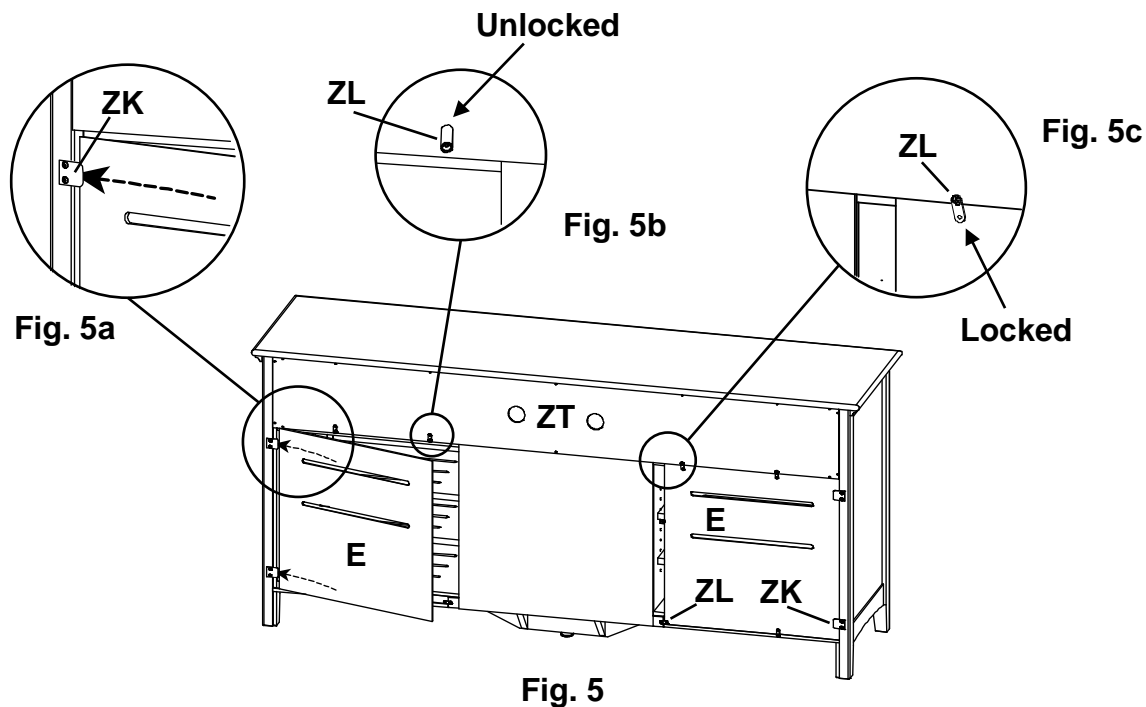

Fig. 5
5. To insert your media components and access wires more easily, you may want to remove the Removable Backs (E). To do so, unlock the Turn Buttons (ZL) as shown in Figures 5 and 5b. Slide the Backs away and place them off to the side. After installing the components, slide the Backs (E) behind the Drawer Stops (ZK) and lock the Turn Buttons. See Figures 5, 5a, 5b, 5c.